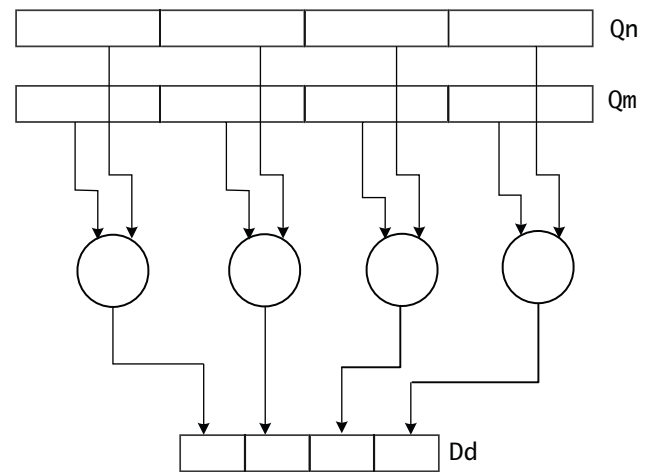

Figure 3-3 NEON narrow instructions
- *Narrow* instructions operate on quadword vector operands, and produce a doubleword vector. The result elements are half the width of the operand elements. Narrow instructions are specified using an N appended to the instruction. Figure 3-3 shows this.